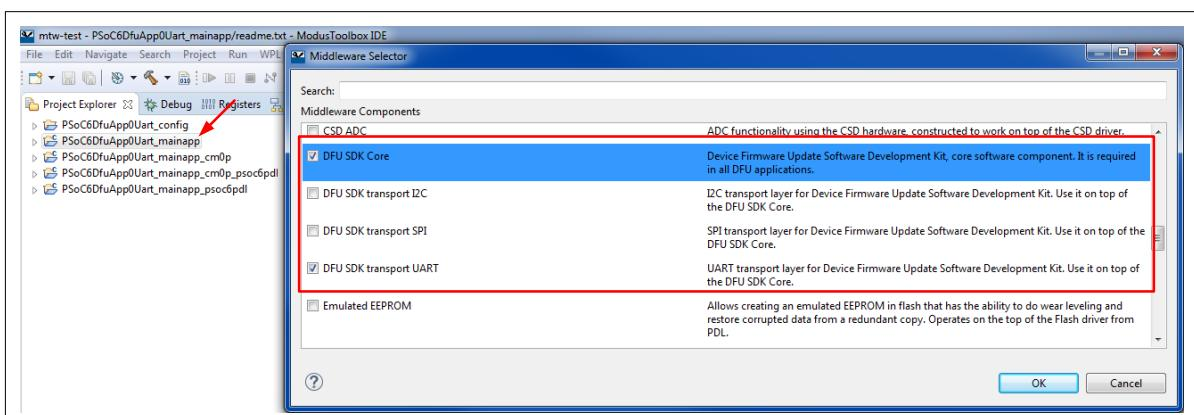

Figure 570 Incorporate DFU SDK into a ModusToolbox™ Project
2. Incorporate the DFU SDK into the project, as Figure 570 shows. Right-click the _mainapp project in the Project Explorer window and click **Middleware Selector**.